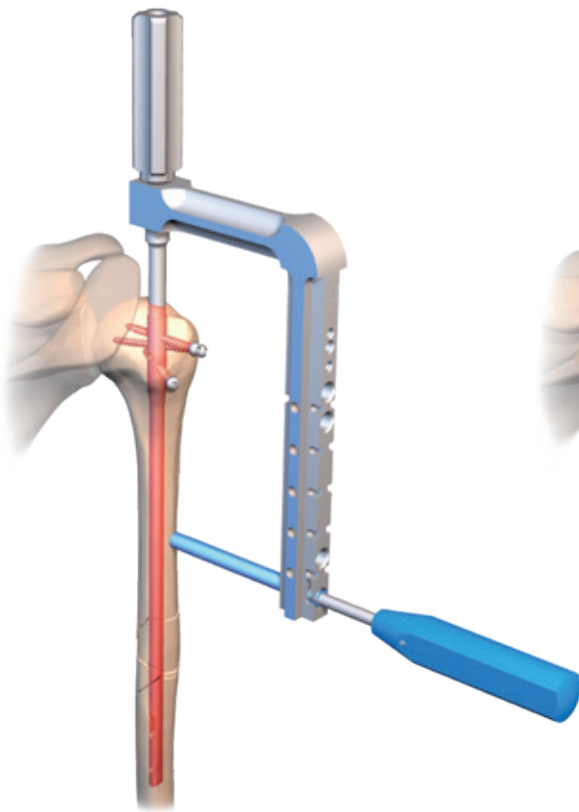

fig. 11
- Insert the blunt tip eyelet handle (intermediary obturator ref. 253 676) into the aiming sleeve (blue with notch ref. 257 010 or ref. 253 679) until contact is made with the humerus (fig.11).